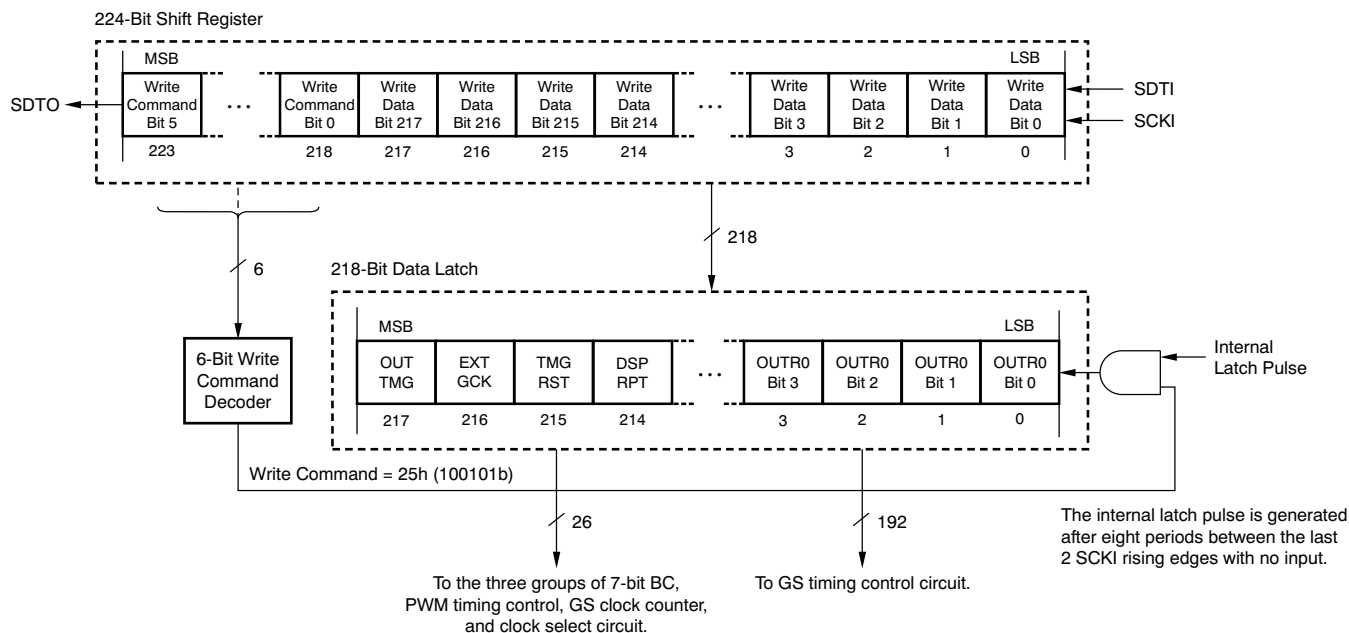

Figure 28. Common Shift Register and Control Data Latch Configuration
The TLC5971 has a 224-bit shift register and a 218-bit data latch that set grayscale (GS) data, global brightness control (BC), and function control (FC) data into the device. When the internal latch pulse is generated and the data of the six MSBs in the shift register are 25h, the 218 following data bits in the shift register are copied into the 218-bit data latch. If the data of the six MSBs is not 25h, the 218 data bits are not copied into the 218-bit data latch. The data in the data latch are used for GS, BC, and FC functions. Figure 28 shows the shift register and the data latch configuration.